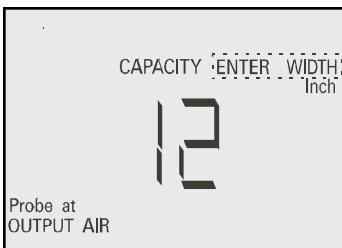

Figure 13
5.5.3 Flashing "ENTER WIDTH" will be displayed on LCD. (Fig.13)